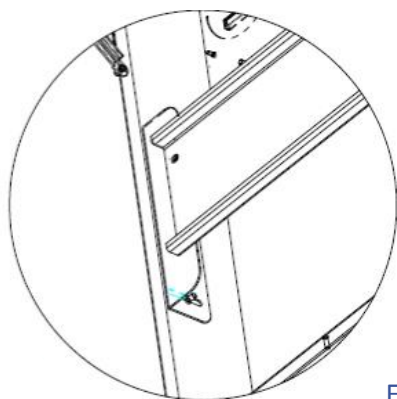

Figure9
- TO LOWER: Loosen the screws and lower the interior bracket downwards to increase the distance from the LCD enclosure screen then fasten (Figure9).